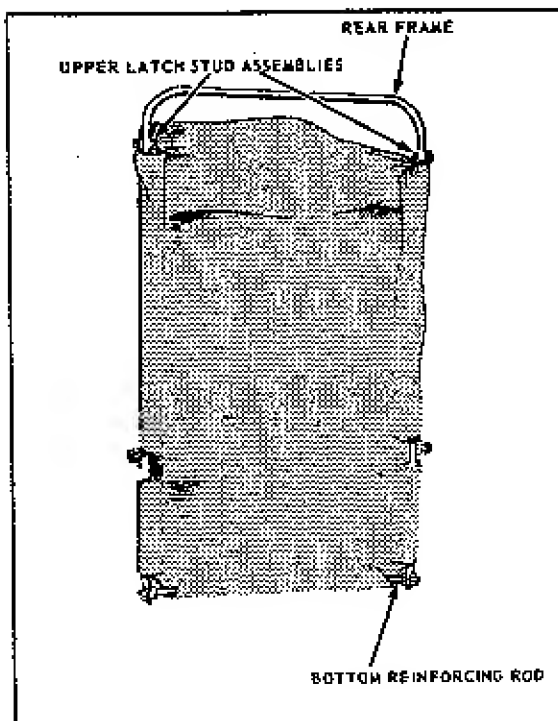
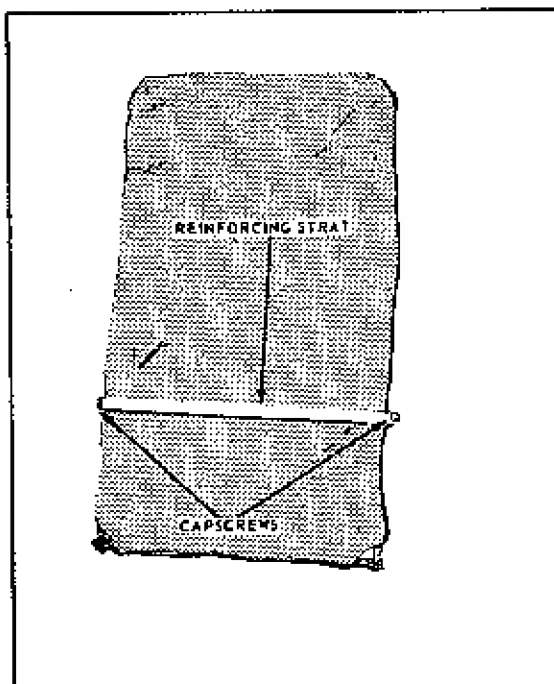

FIGURE 8
FIGURE 9
G. The rear door is constructed by inserting the rear frame into the slots in the rear canvas. The bottom reinforcing rod is then inserted in the bottom canvas slot, and is secured in position by means of the nuts and washers provided. See Figure 8. The reinforcing strap is positioned over the lower outside portion of the door as shown in Figure 9, and is secured in place with the capscrews, spacers and attaching hardware called out on the exploded view and parts list. Attach the upper latching stud assemblies to the holes provided in the upper part of the door frame as shown in Figure 8, then position the top edge of the canvas over the top of the door frame as shown.